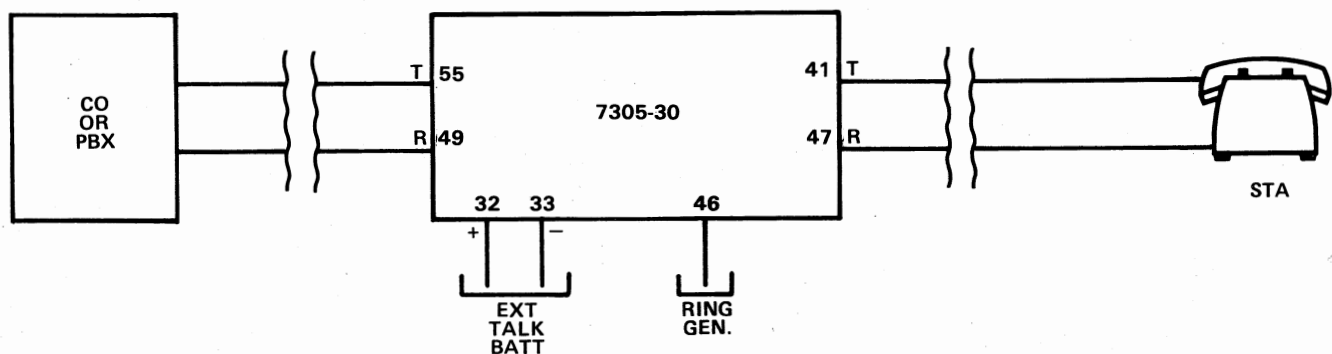

Figure 2. 7305-30 Typical Stand-Alone Application
2.01 The 7305-30 is typically used in station applications. Figure 2 shows a typical stand-alone application of the 7305-30.